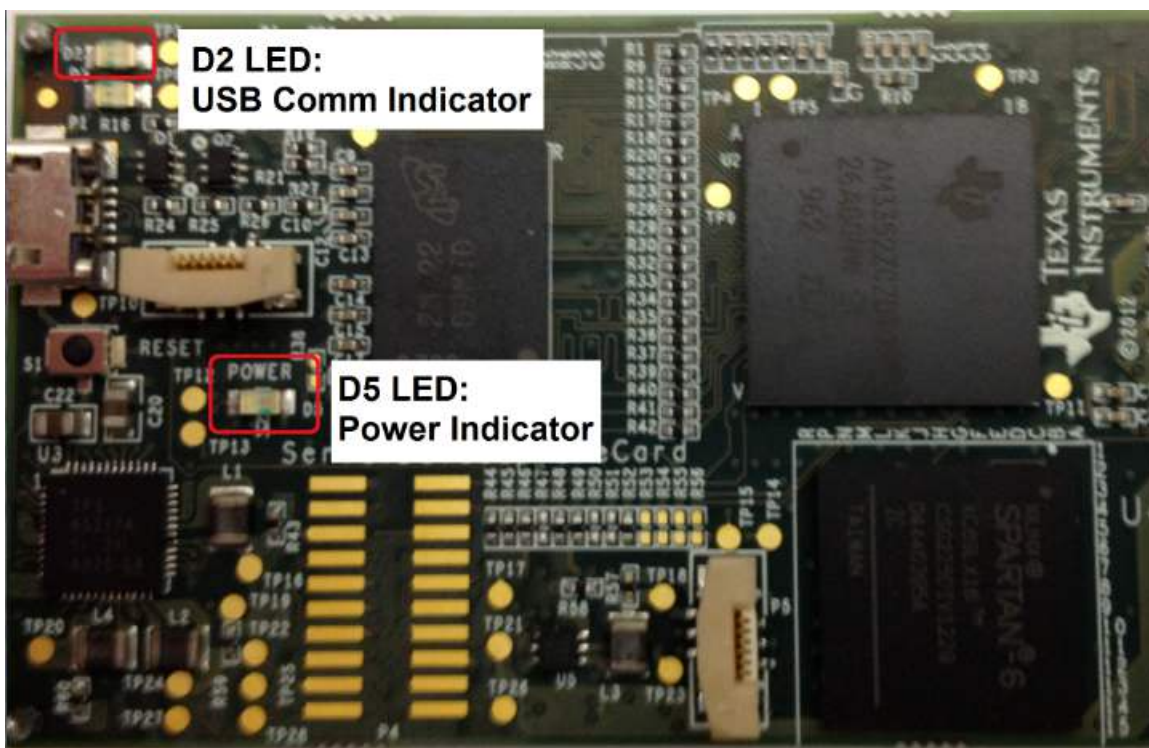

Figure 9. LED Indicators on the Simple Capture Card Board
- Step 5. Verify that the LED D5 *Power Good* indicator is illuminated. Wait approximately ten seconds and verify that diode D2 blinks, indicating that USB communication with the host PC is functioning properly. Figure 9 shows the location of the LED indicators in the simple capture card controller board.